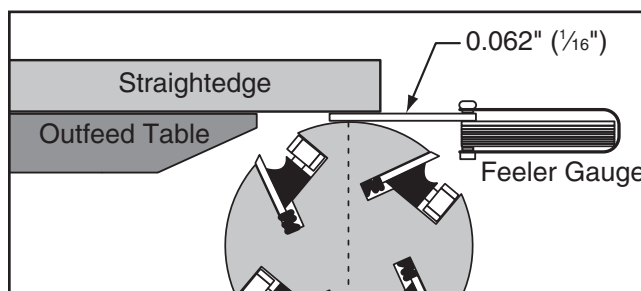

Figure 31. Setting outfeed table height.
4. Place straightedge on outfeed table so it extends over cutterhead, lower outfeed table until straightedge is 0.062" ($\frac{1}{16}$ ") above cutterhead body, as determined by using a feeler gauge (see **Figure 31**), then tighten outfeed table lock.